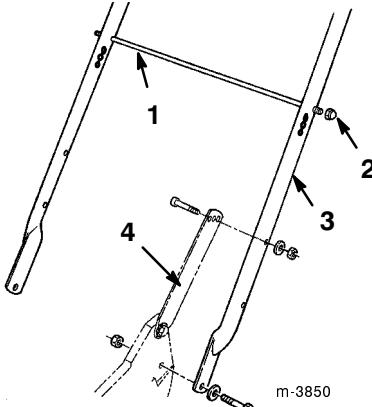

Figure 2
2. Secure the handle latches to the handle with two 5/16-18 x 1-1/2 in. cap screws, washers, and nylon insert locknuts (Fig. 2).
3. Slide the bag support rod through the top mounting holes in the handle and secure each end with a cap locknut (Fig. 2).